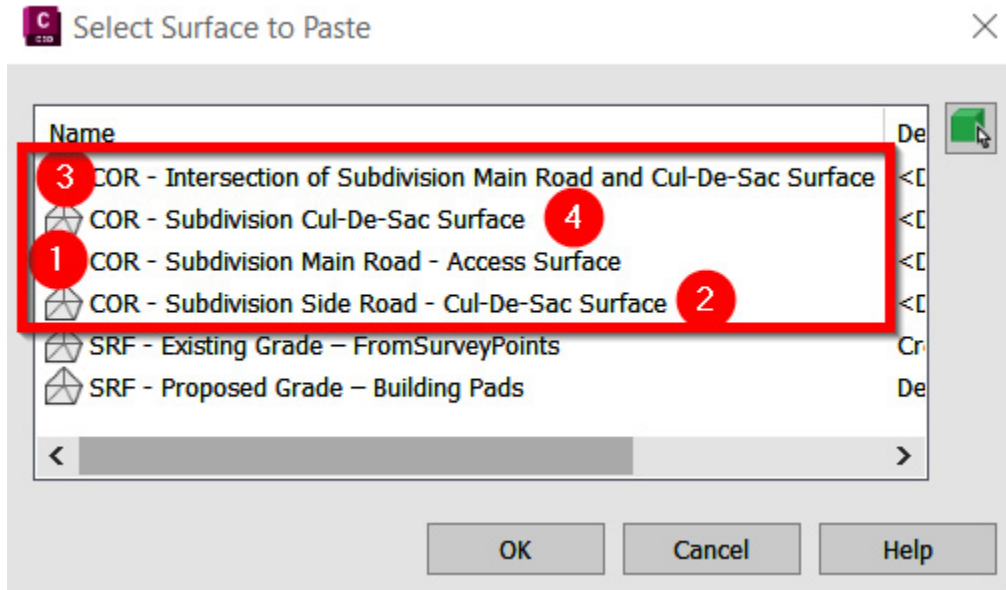

Figure 10.45 - The Select Surface to Paste dialog box
4. Here, we'll want to double-click on our surfaces in the following order (also shown in *Figure 10.45*):